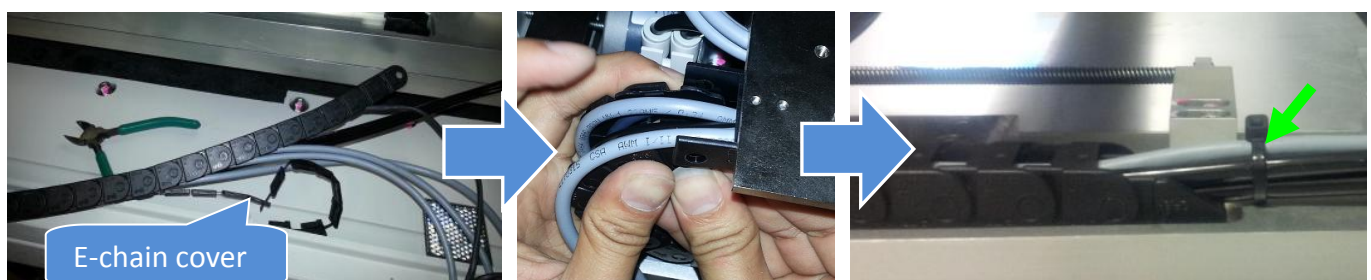

Figure 34 Cable Routing (AWA E-Chain)
36. Assemble E-chain Top cover at AWA E-Chain. Next, reconnect the E-Chain Top Joint. Secure the AWA Cable with cable tie as below Figure 34